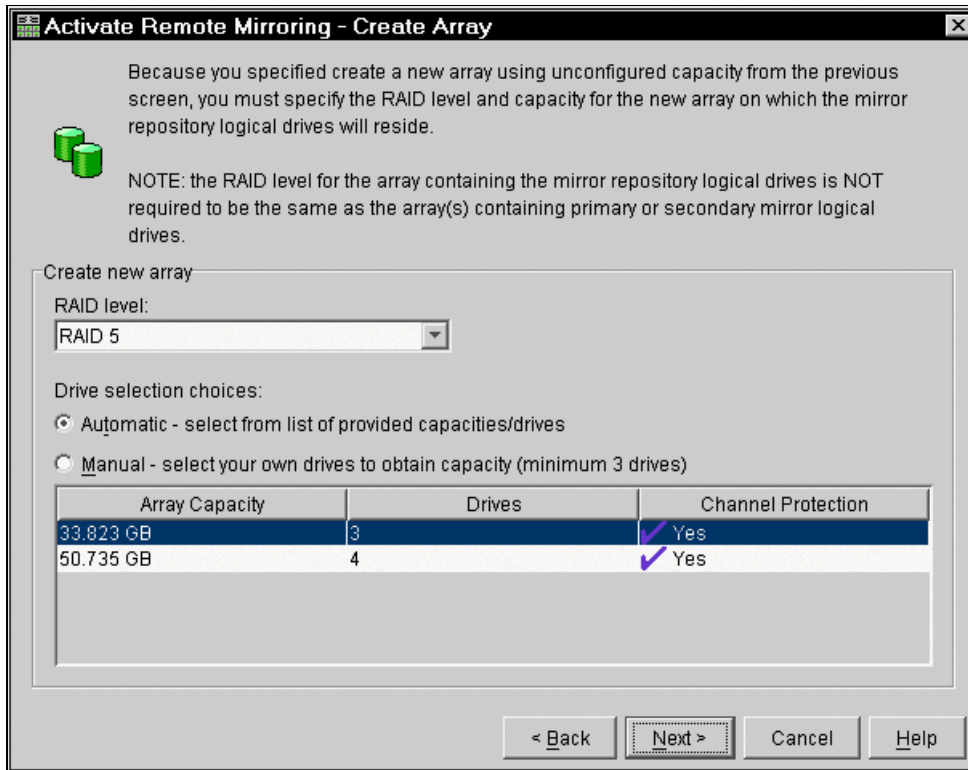

Figure 6-14 Create New Array window
- i. In the Create New Array window (Figure 6-14), select the RAID level for the new logical drive.